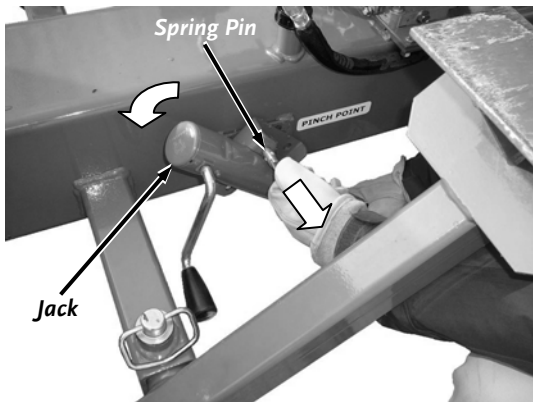

Figure 32
5. Rotate the Jack to the towing position by pulling the spring pin and rotating the Jack until it locks into the tow position (**Figure 32**). Make sure the hitch coupler is properly and securely attached to the tow ball.